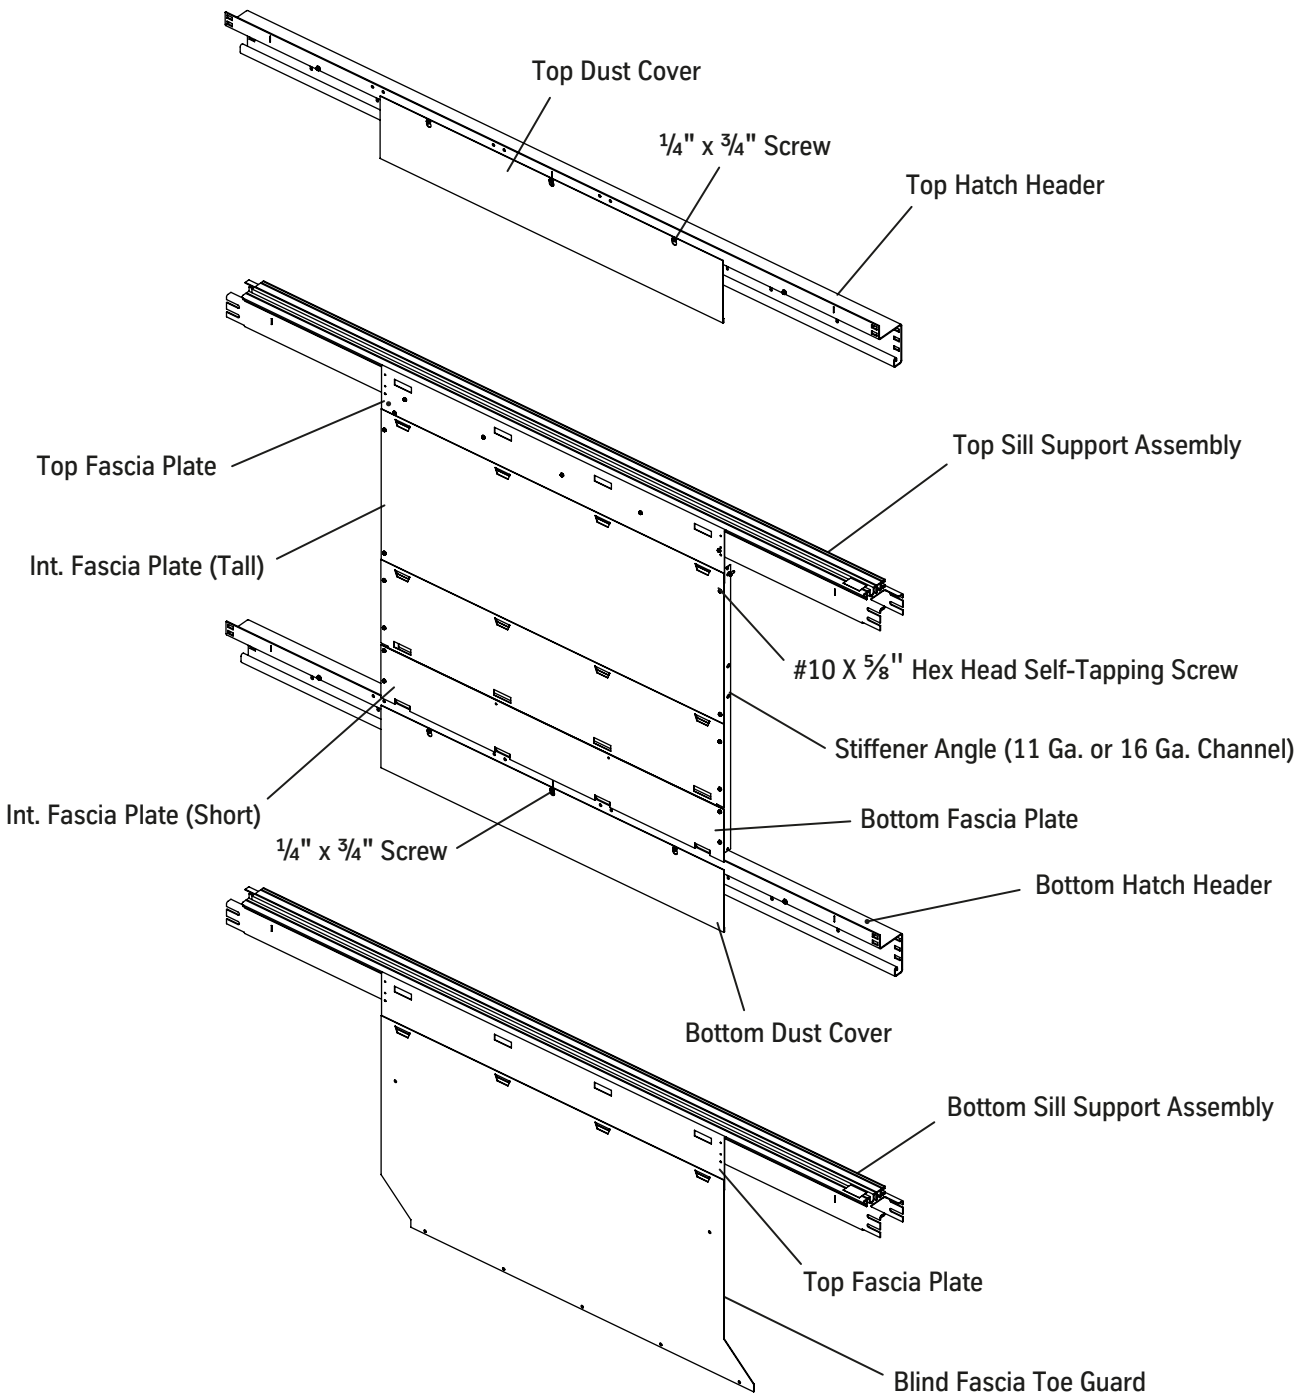

Figure 45 - Install Fascia Plates, Dust Covers, and Toe Guards (1 of 4)
2. Center a top fascia plate in the opening, and hook the fascia plate onto the hoistway sill of the top landing. See Figure 45 on page 65 through Figure 47 on page 67.